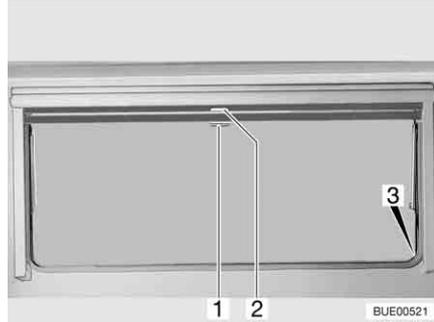

Fig. 84 Hinged window
- Pull blind at the handle (Fig. 84,2) downwards. If the blind is to be completely closed, it is suspended into the locking devices (Fig. 84,3) situated on both sides of the window frame.
- If the blind is completely closed: Press handle (Fig. 84,2) downwards and, at the same time, tilt it slightly inward. The blind can be taken out of the locking devices situated on both sides of the window frame.
- If the blind is in an intermediate position: Pull the handle (Fig. 84,2) slightly downwards until the locking device releases.
- Pull insect screen at the handle (Fig. 84,1) down and hang it into the locking devices (Fig. 84,3) situated on both sides of the window frame.
- Press handle (Fig. 84,1) downwards and, at the same time, tilt it slightly inward. The insect screen can be taken out of the locking devices situated on both sides of the window frame.